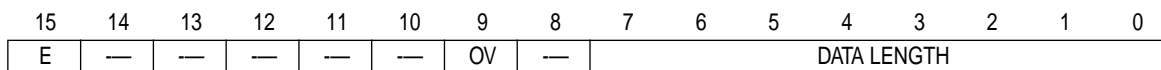

Figure 4-13. Transparent Receive Buffer Descriptor
1. Overrun Error—The transparent controller maintains an internal three-word FIFO for receiving data. If a FIFO overrun occurs, the transparent controller writes the received data word to the internal FIFO over the previously received word. The previous word is lost. Next, the channel closes the buffer, sets the overrun (OV) bit in the BD, and generates the RX interrupt (if enabled). The receiver then enters hunt mode immediately.
4.5.11.7 TRANSPARENT RECEIVE BUFFER DESCRIPTOR (RxBD). The CP reports information about the received data for each buffer using BD. The RxBD is shown in Figure 4-13. The CP closes the current buffer, generates a maskable interrupt, and starts to receive data into the next buffer after one of the following events: